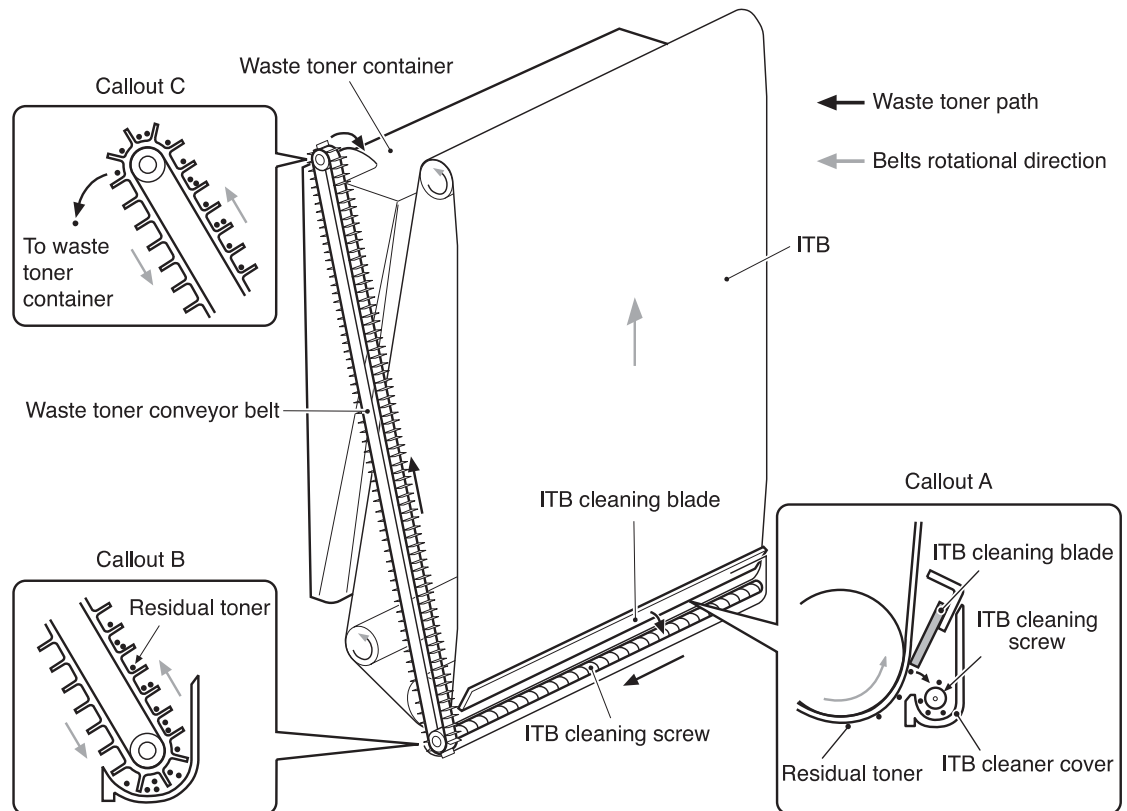

Figure 5-45.
1. The cleaning blade on the ITB is always in contact with the ITB and scraping the residual toner off the ITB. (See callout A in figure Figure 5-45. ITB cleaning control, below.)
3. The waste toner is delivered to the waste toner container, sitting inside the ribs of the conveyor during transfer. (See callouts B and C in figure Figure 5-45. ITB cleaning control, below.)